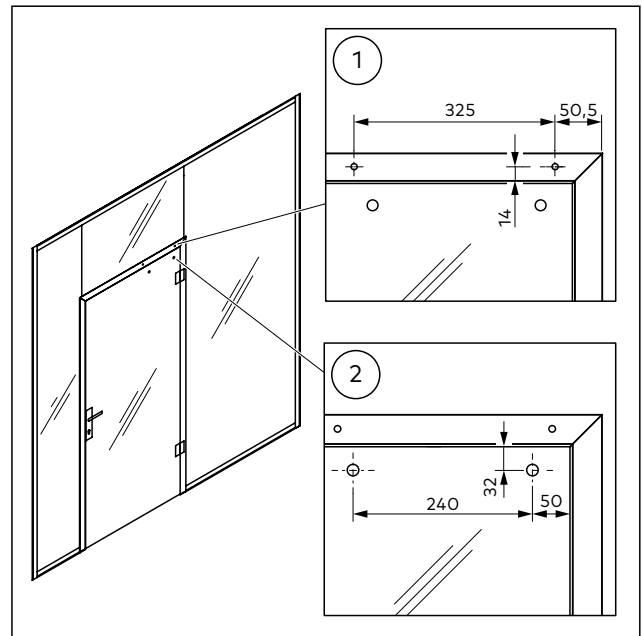

Abb. 5 Clearances for a UNIQUIN door closer system
1. Make sure that the installation situation for the door closer system's mounting is available (Abb. 5).